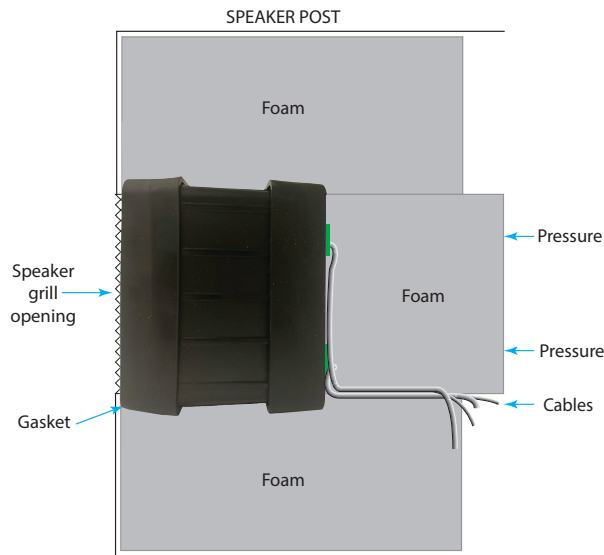

Fig. 3
5. When the connections are made and the SP7000 is positioned, repack it with foam to secure (Fig. 3).